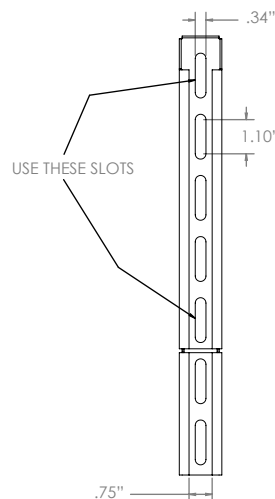

Figure 23 - Mounting Bracket
4. Mark the two slots indicated in *figure 23* and mark a line indicating the top flange of the bracket. Measure the distance from the center.